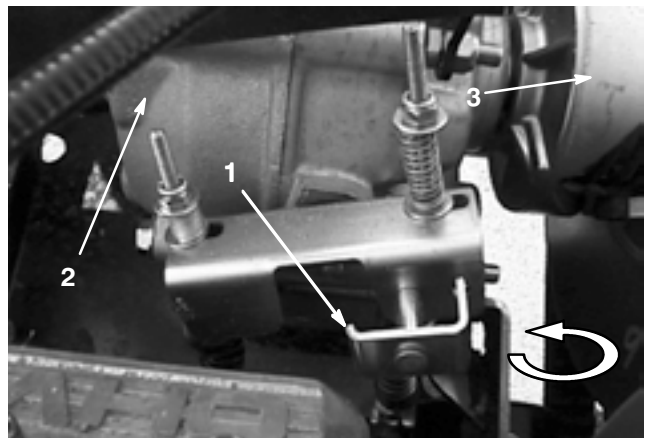

Figure 4
- B. Make sure transaxle is locked in neutral by rotating the driven clutch (Fig.4). The tires should not rotate. If tire rotation does occur, see Adjust Shift Cables - Chapter 4, Drive Train.